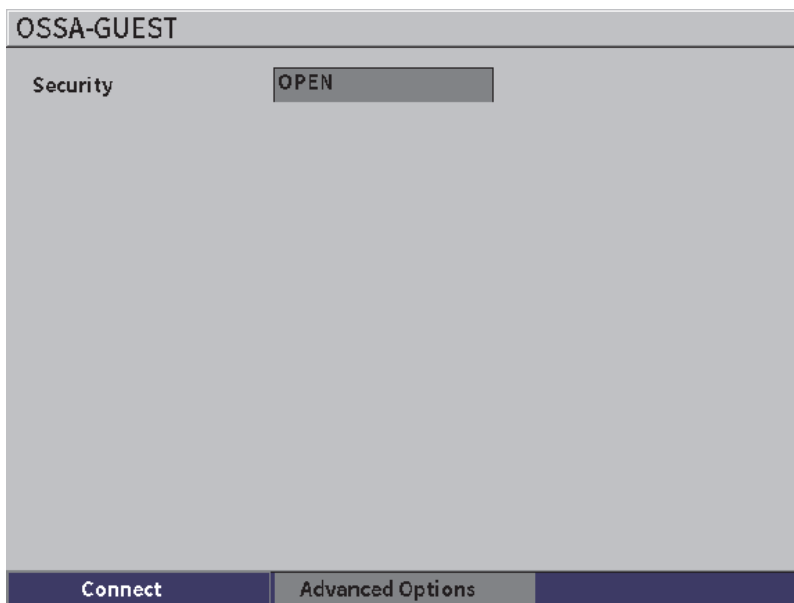

Figure 10-3 Wi-Fi unsecured logon page
- b) If the network you select does not require a password, press the Enter key to connect to the selected network (see Figure 10-3 on page 168).